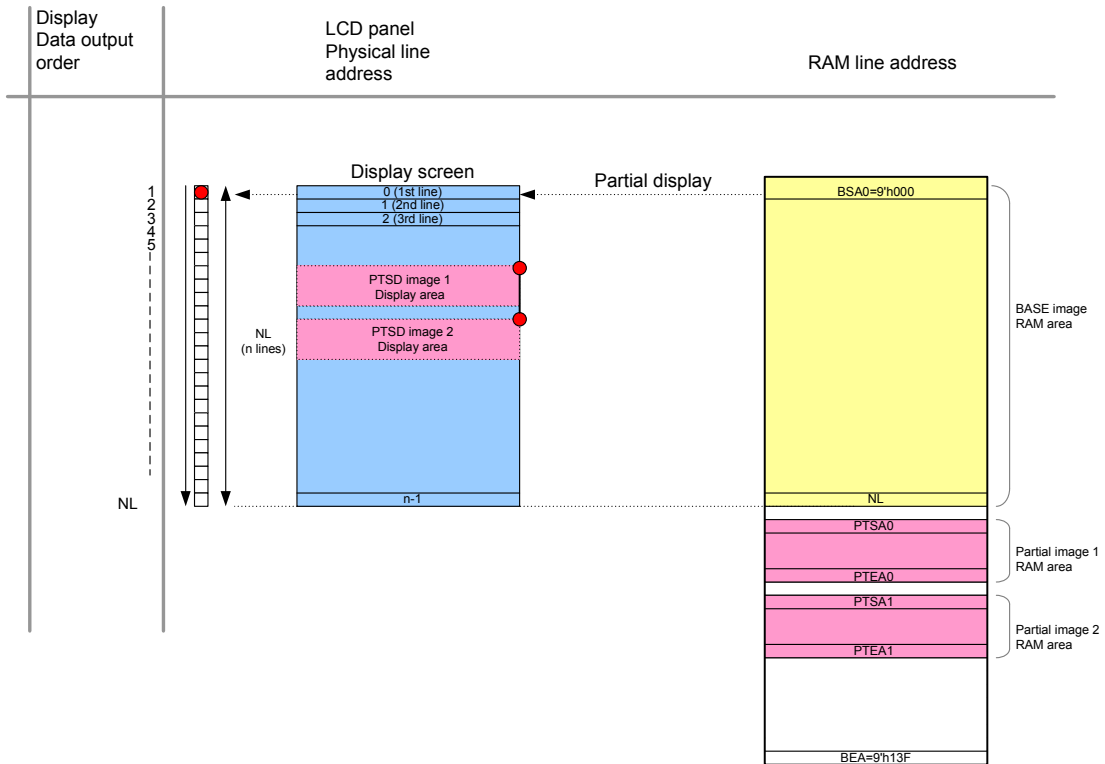

Figure 9-4 Example of NL[5:0] setting is < 6'h27 case
**Figure 9-4** indicated the case of NL[5:0] setting is < 6'h27 which active line is less than 320. Partial display image data can stored in not active area.